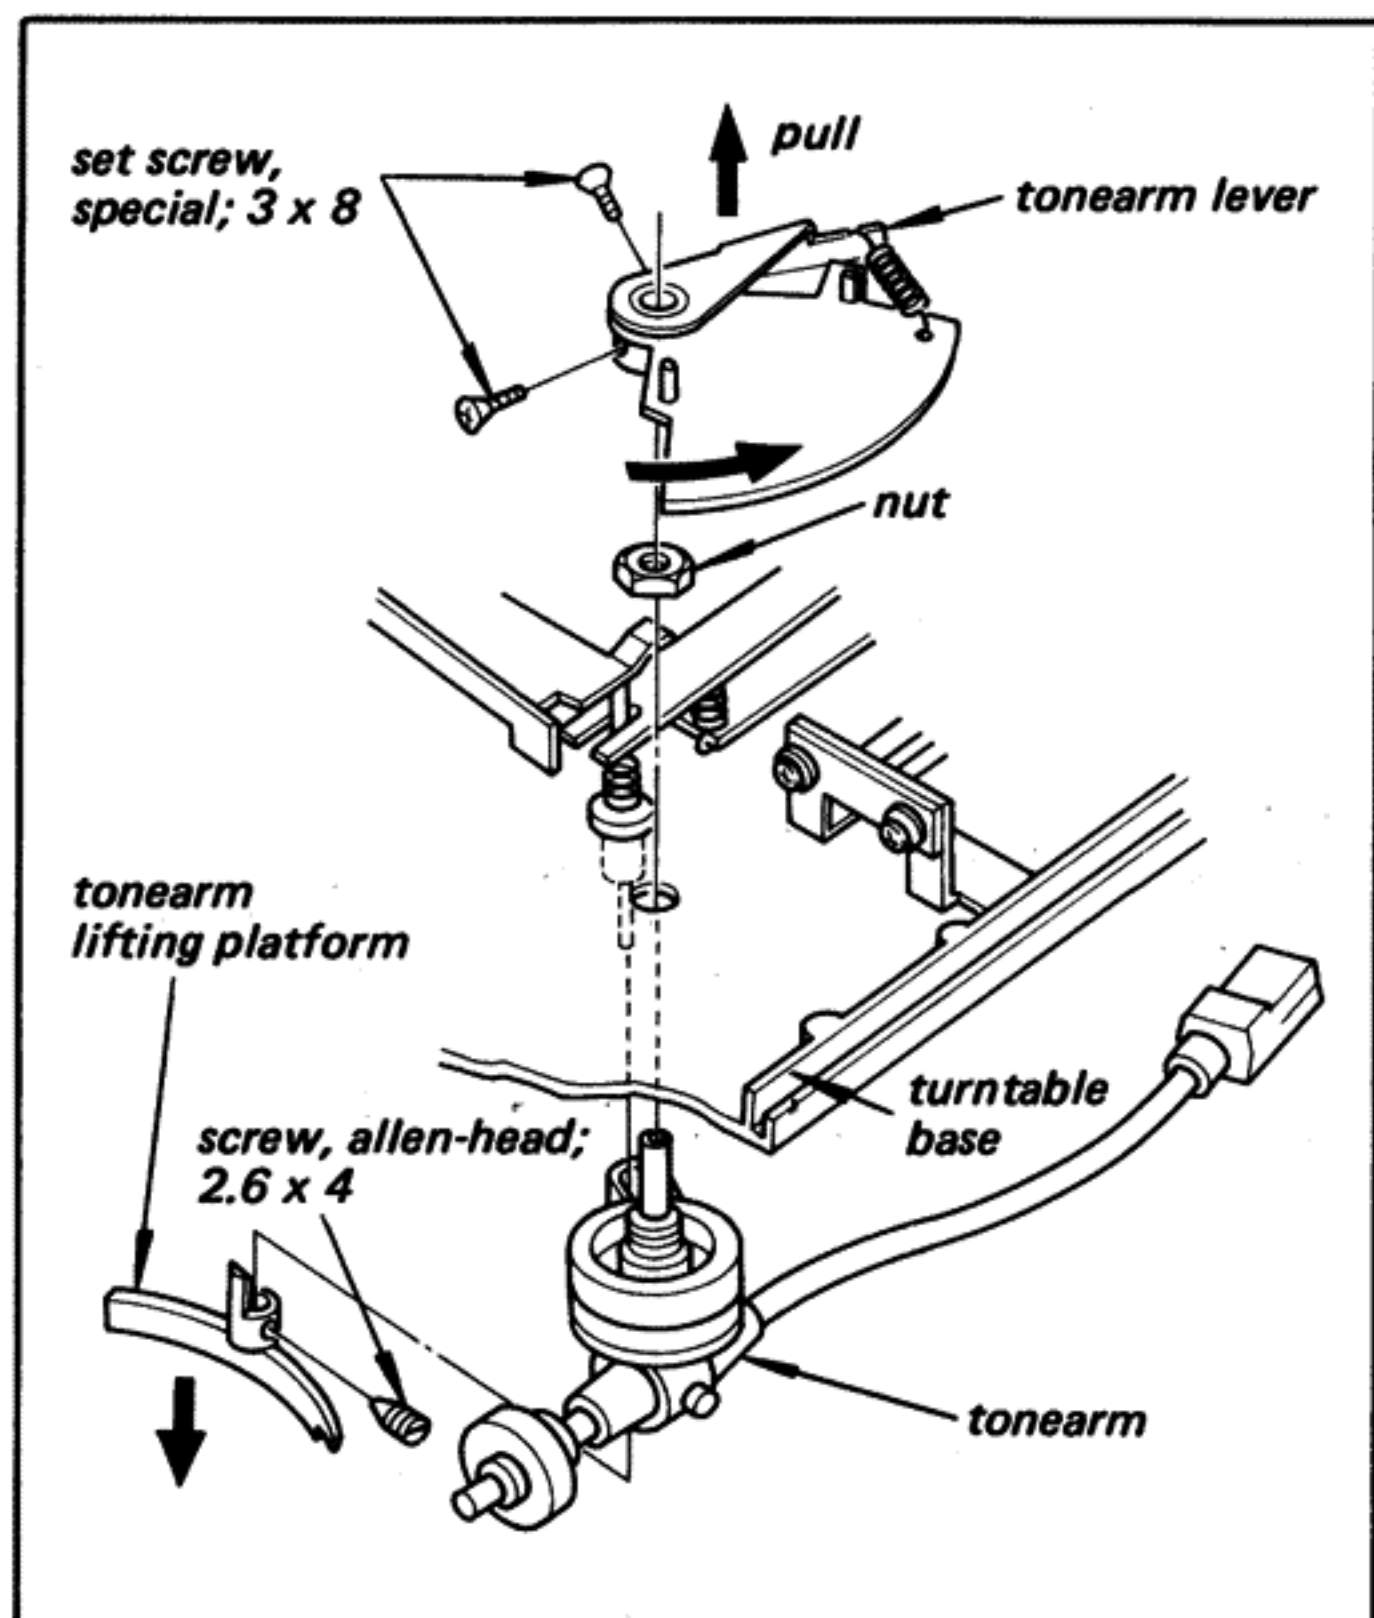

Fig. 2-3. Tonearm replacement
4. Remove the tonearm lifting platform by removing the screw (2.6 x 4, allen-head) shown in Fig. 2-3.
6. Loosen the two set screws (3 x 8, special) and pull out the tonearm lever by turning to the arrow direction as shown in Fig. 2-3.
7. Remove the nut securing the tonearm to the turntable base as shown in Fig. 2-3.